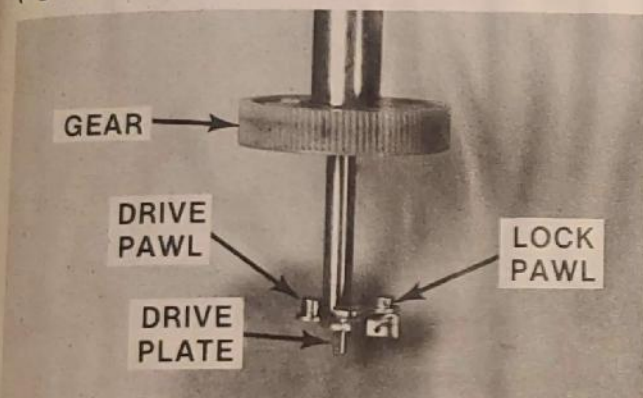

Fig. 45. Assembly of Drive Mechanism
1. Turn drive plate upside down. Position drive pawl and lock pawl on drive plate. Slide gear down over shaft. Align pins on pawls with guide channel in gear (fig. 45).